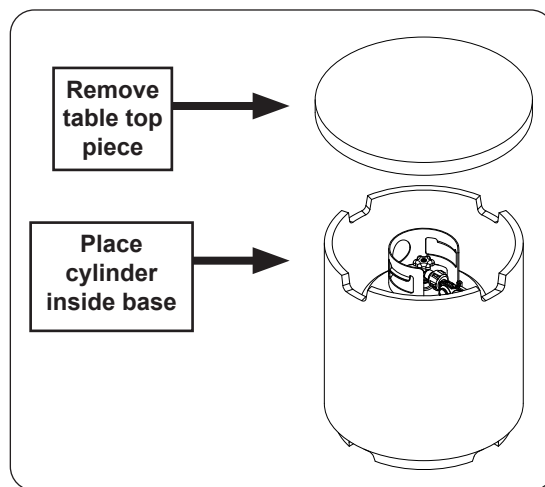

Fig. 2-2 Place L.P. cylinder
2. The L.P. cylinder (not included) is to be located inside the base of the tank table. To place the cylinder, remove the table top piece, then insert the cylinder (see Fig. 2-2).